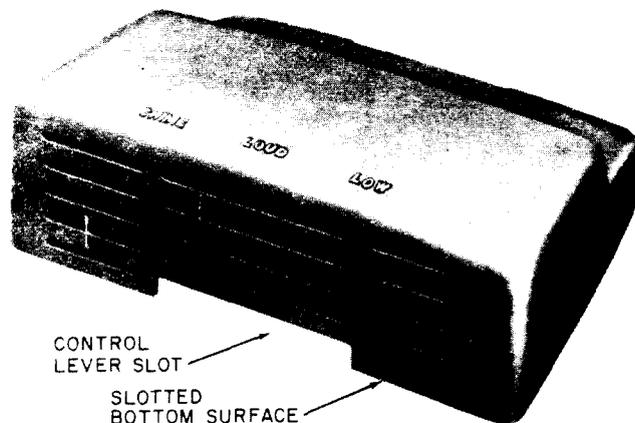

Fig. 2—125A Cover
2.02 The plastic cover (Fig. 2) is not supplied with the F1A ringer. Order separately as follows: